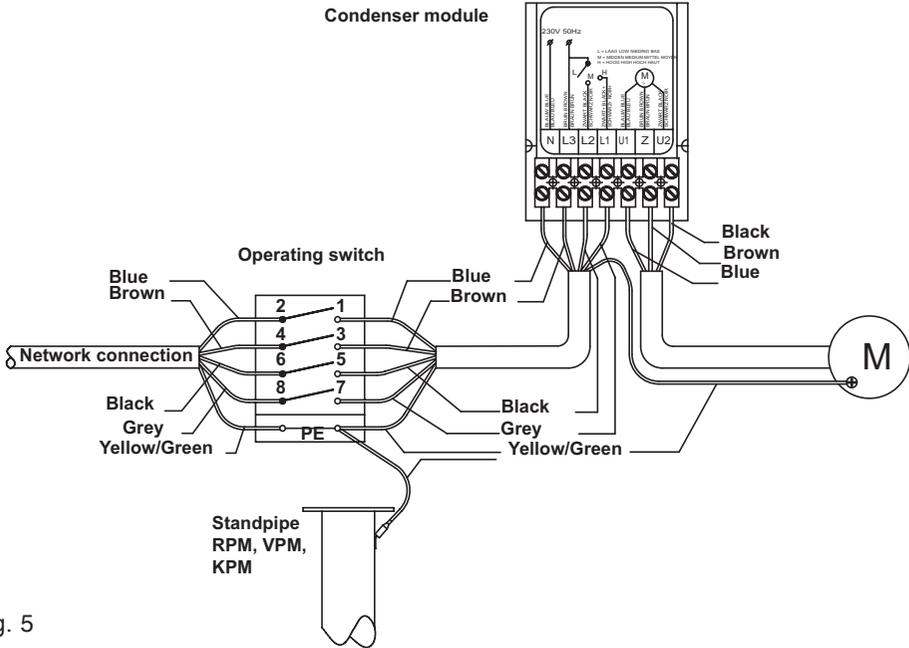

fig. 5
- 4 Remove the wire (grey) from connector "L1" and insert it into connector "U1", (see diagram fig. 5).
(diagram fig. 5)